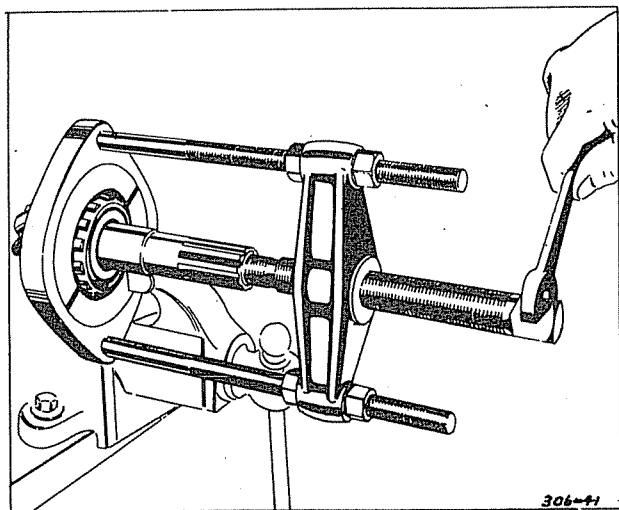

Fig. 23—Removing Drive Pinion Bearing With Tool C.293.
- (2) Remove pinion bearing as shown in Figure 23.
- (3) Remove drive pinion oil seal from carrier.
- (4) Remove both pinion bearing cups from carrier assembly.